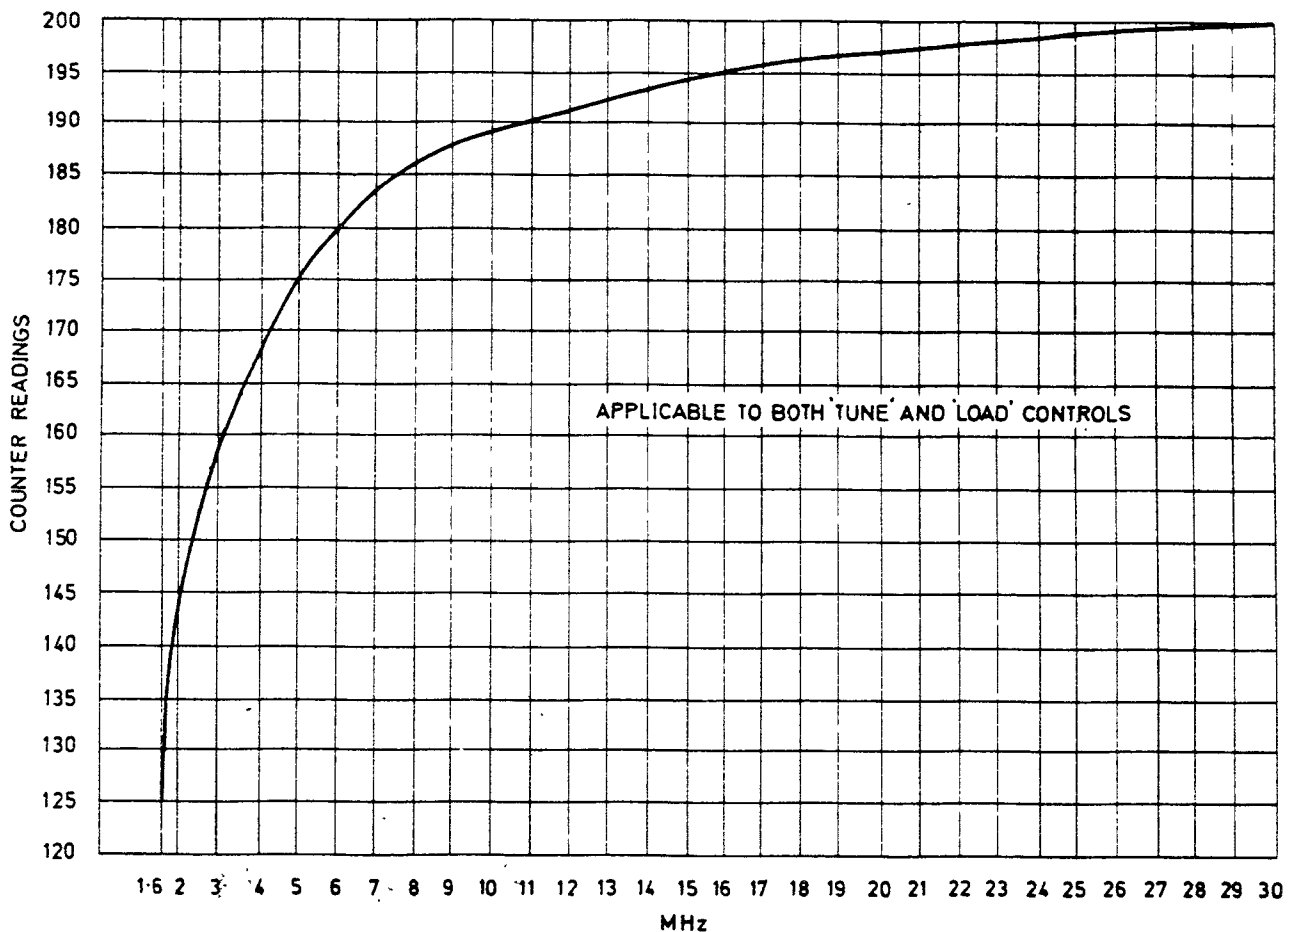

Fig. 4 Feeder matching unit : manual tuning graph
- (3) Referring to the tuning graph (fig. 4), adjust the TUNE control to give the counter reading appropriate to the operating frequency.
- (4) Repeat step (3) using the LOAD control.
- (5) Depress the RESET switch on the MA.1720S.
- (6) Set the DISCRIMINATOR BALANCE switch to TUNE and adjust the TUNE control to give a centre-zero meter reading.
- (7) Set the DISCRIMINATOR BALANCE switch to LOAD and adjust the LOAD control for a centre-zero meter reading.
- (8) Repeat steps (6) and (7) alternately for best balance.